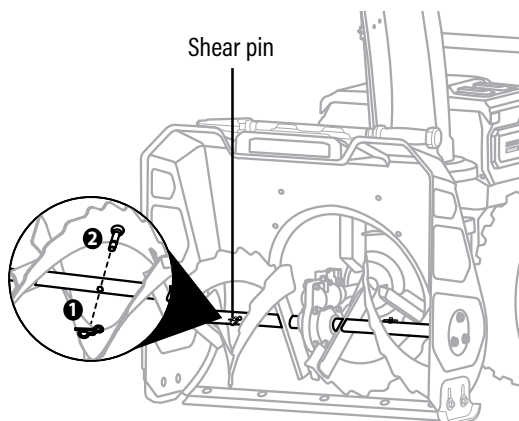

Fig. 17
1. Remove the locking pin from the shear pin on each side and then pull out the broken shear pin. (Fig. 17)
2. Carefully align the auger to the auger shaft and insert the new shear pin into the slot, then insert the locking pin to secure the auger. (Fig. 17)